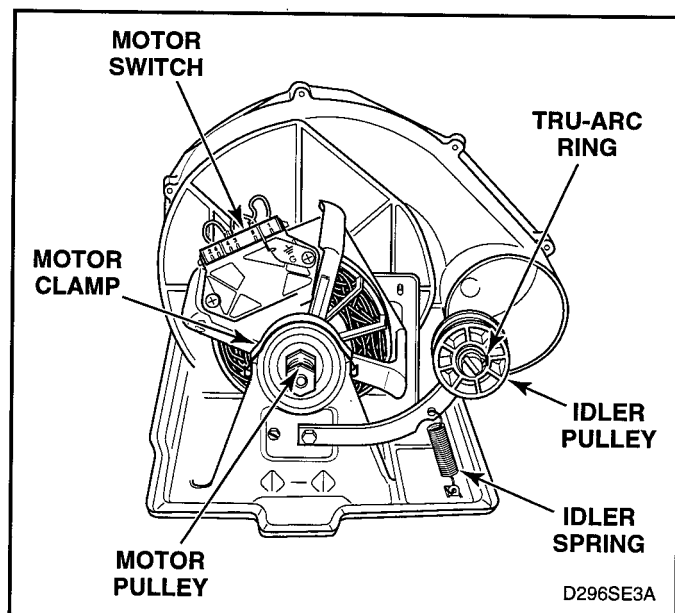

Figure 5-18
- Disengage motor wire harness terminal block from motor switch by pressing in on the movable locking tabs (located on each end of the terminal block) and pulling away from motor. See figures 5-18 and 5-20.
See figure 5-18 for motor and idler pulley removal.
2. Disconnect ground wire from motor. See figure 5-18.
3. Pry two motor clamps off motor mounting bracket with screwdriver. See figure 5-18, then lift motor out of mounting bracket.